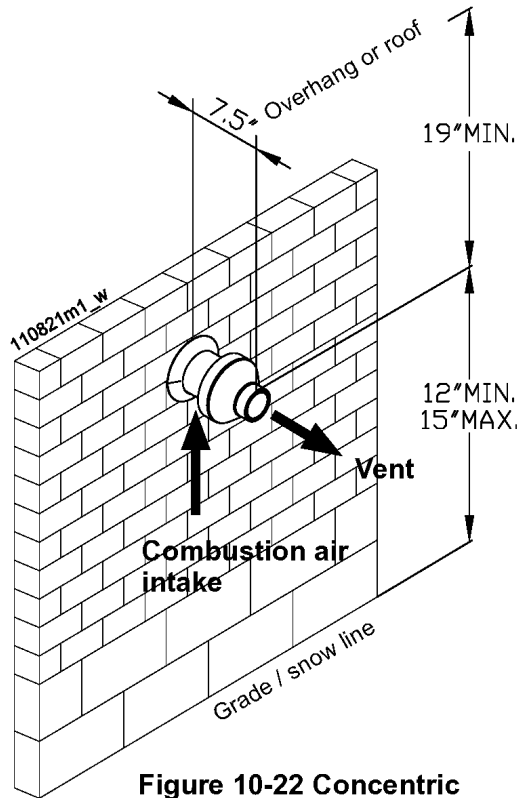

Figure 10-22 Concentric sidewall termination clearances
The termination kit must terminate outside the structure and must be installed as shown in Figure 10-22.
1. Determine the best location for the termination kit (see Figures 10-22 and 10-23).
4. Cut one (1) hole 5 inch diameter into the structure to install the termination kit.
NOTICE! Ensure termination location clearance dimensions are as shown in Figures 10-22 and 10-23.